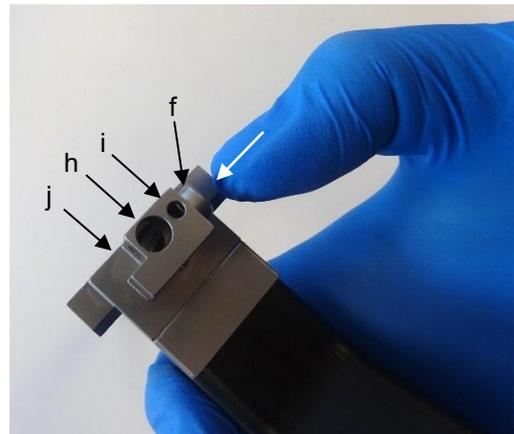
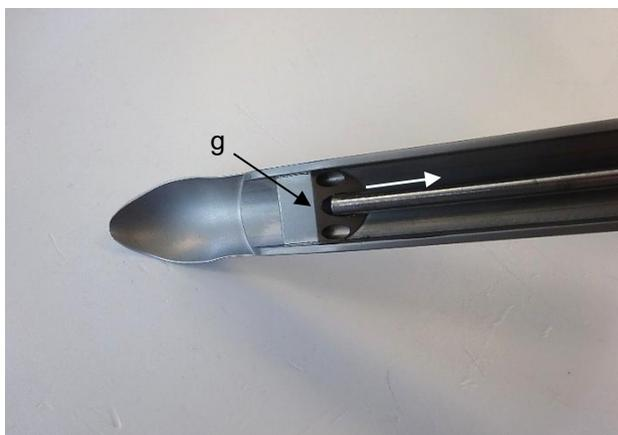
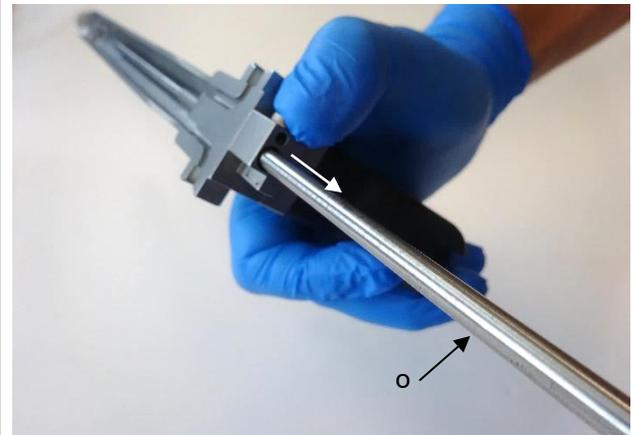

Fig. 12b
Fig. 12c
Fig. 12d
7. Press the push button (f) to unlock the locking mechanism to remove the endoscope (o) (Fig. 12b) and pull the endoscope (o) out of the distal endoscope support hole (g) (Fig. 12c). The endoscope must then be pulled out proximally from the endoscope support hole (h) (Fig. 12d). As soon as the endoscope has been completely removed from the hook, the push button (f) for unlocking the locking mechanism can be released.